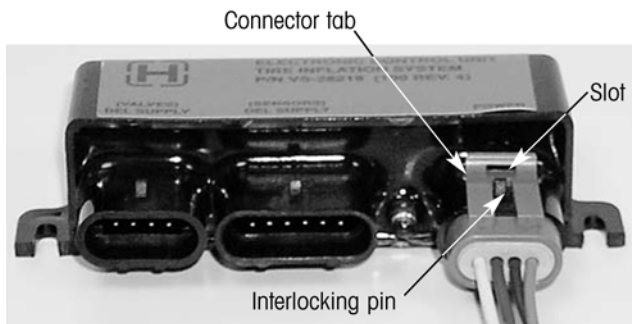
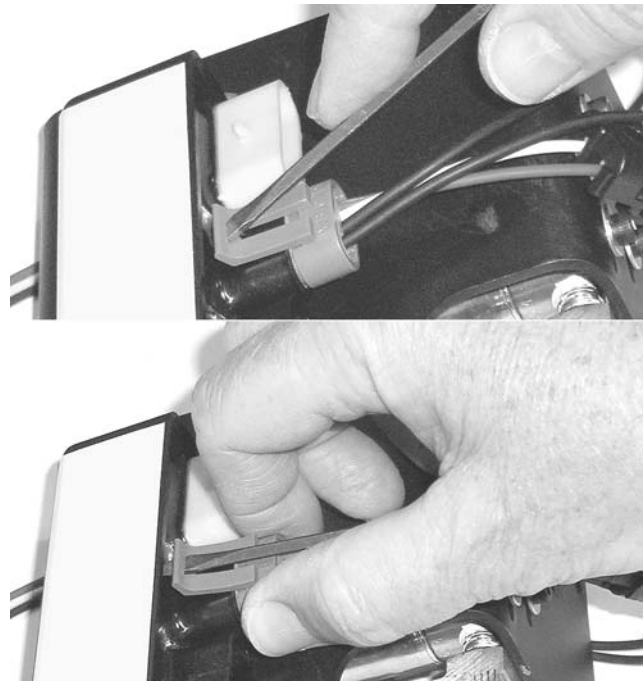

Figure 2. Typical connector items
Figure 3. Connector unplugging technique
**NOTE:** To unplug the connectors, insert the tip of a small flat blade screwdriver into the slot on the connector tab and **GENTLY** push down on the screwdriver to disengage the tab from the interlocking pin (figures 2 and 3). With the tab disengaged, gently pull the connector apart (figure 3). **DO NOT** overbend the tab. Even though the connector is made of a resilient plastic, it is possible to damage the connector if excessive force is used.